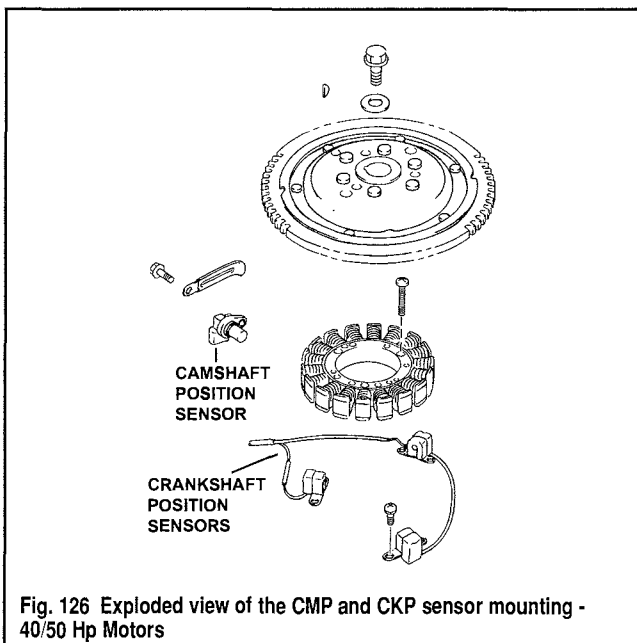

Fig. 126 Exploded view of the CMP and CKP sensor mounting - 40/50 Hp Motors
◆ **See Figures 126 and 127**
- ◆ See Figures 126 and 127
- ◆ See Figure 126
◆ See Figures 126 and 127